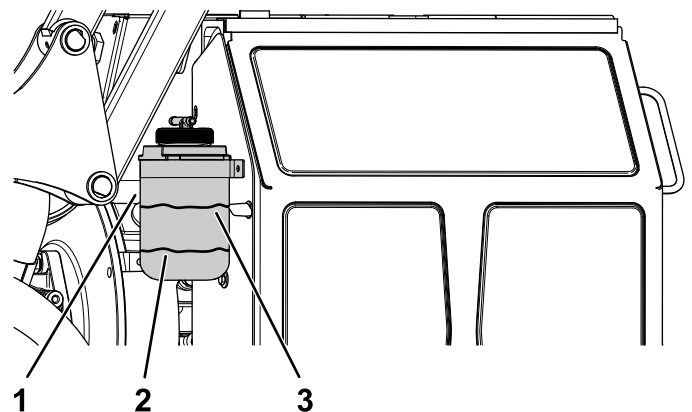

Figure 85
1. Check the level of the coolant in the expansion tank (Figure 85).